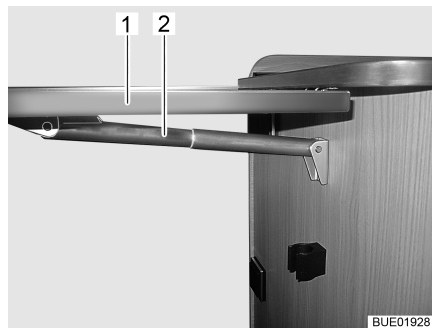

Fig. 30 Folding worktop
- Hold the folding worktop (Fig. 30,1) from below and pull gently to release it from the lock position.
- Swing up the worktop until the fixture of the telescopic holder (Fig. 30,2) engages. Let go of the worktop.